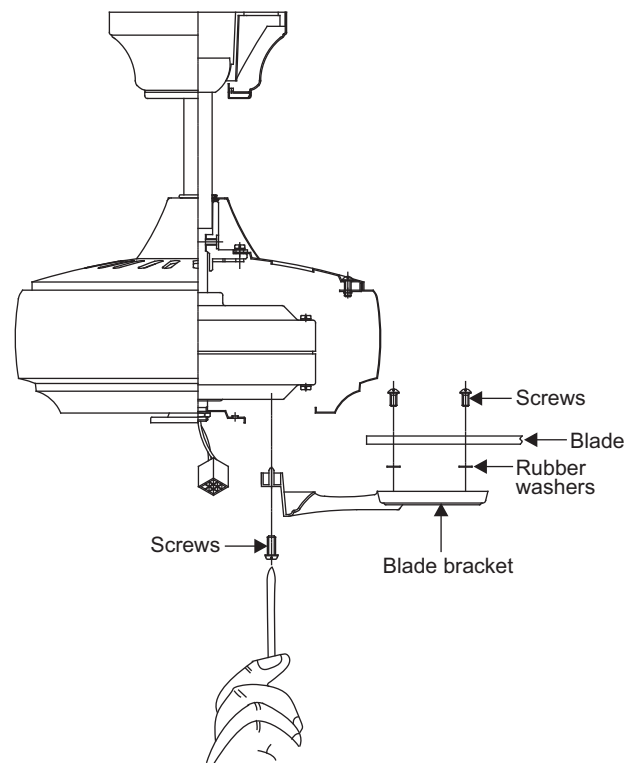

Figure 17
Step 1. Attach the blade to the blade bracket using the screws and rubber washers as shown in Figure 17. Start screw into bracket. Repeat for the two remaining screws.
Step 3. Fasten blade assembly to motor using the screws supplied. (Fig. 17)